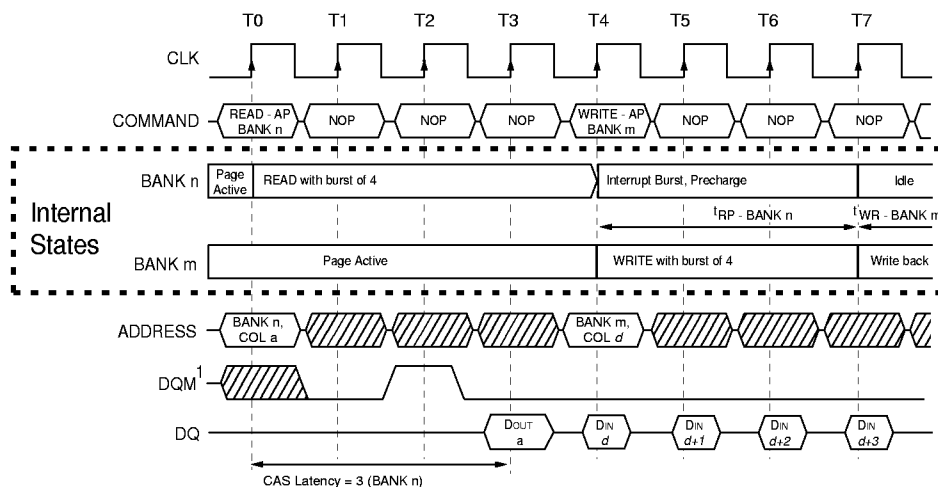

Figure 25
2. Interrupted by a WRITE (with or without AUTO PRECHARGE): A WRITE to bank m will interrupt a READ on bank n when registered. DQM should be used two clocks prior to the WRITE command to prevent bus contention. The PRECHARGE to bank n will begin when the WRITE to bank m is registered (Figure 25).